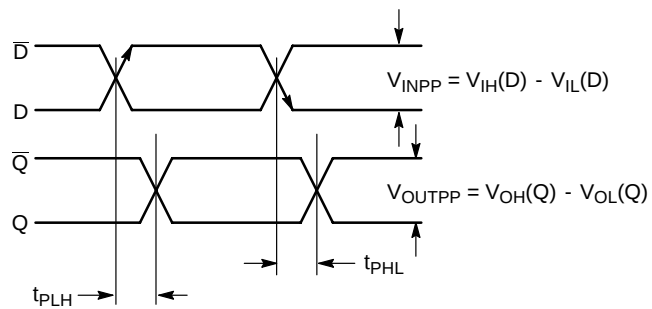

Figure 6. AC Reference Measurement
19. See Figure 6. $t_{skew} = |t_{PLH} - t_{PHL}|$ for a nominal 50% differential clock input waveform.
22. See Figure 6. $t_{\text{skew}} = |t_{\text{PLH}} - t_{\text{PHL}}|$ for a nominal 50% differential clock input waveform.